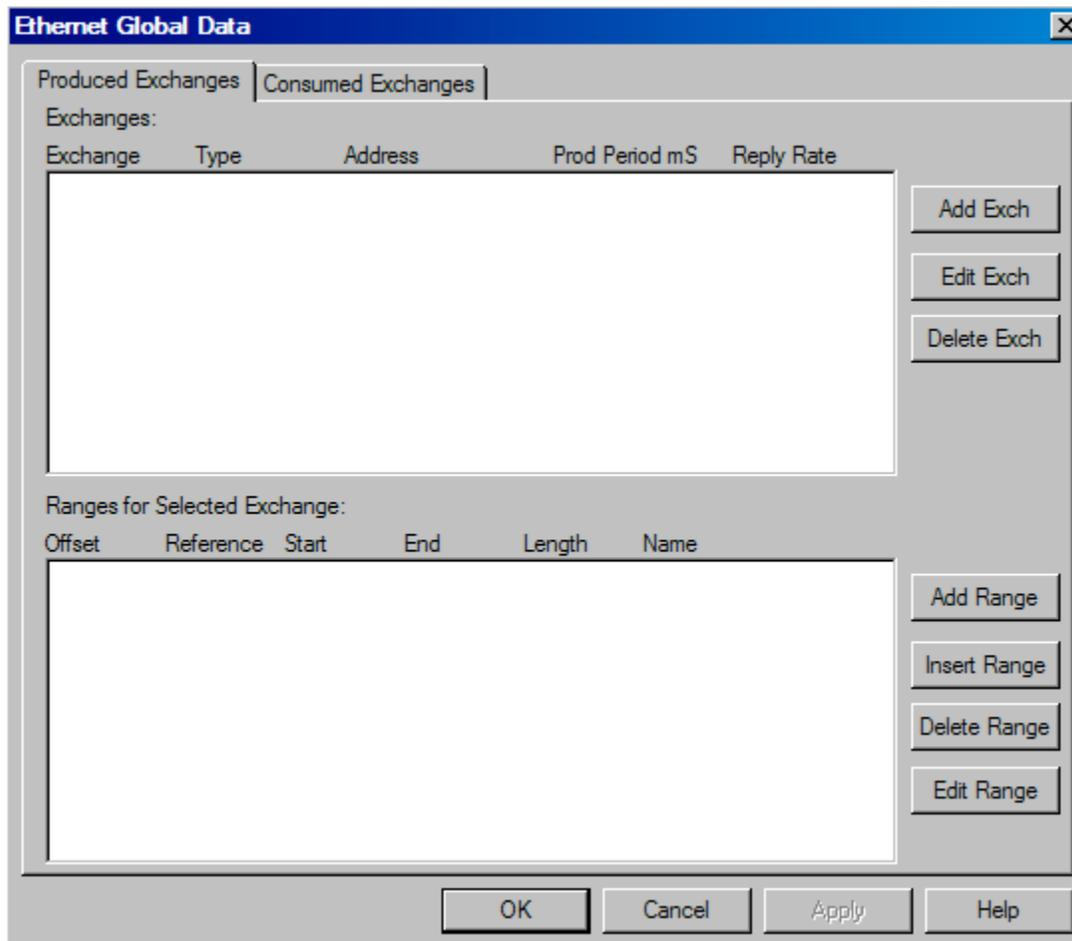

Figure 17.5 Ethernet Global Data exchange screen
- a) If the EGD box (Ethernet Global Data) is selected, the screen in figure 17.5 appears. Two tabs are available for selection: **Produced Exchanges** and **Consumed Exchanges**.